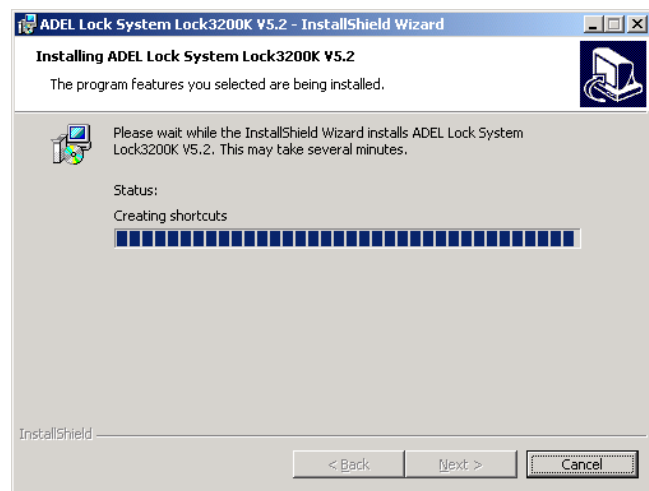

Figure 1-17
- 12) If the above settings are correct, click **Next** button to enter next page shown in Figure 1-17. Click **Back** button to return to prior page.